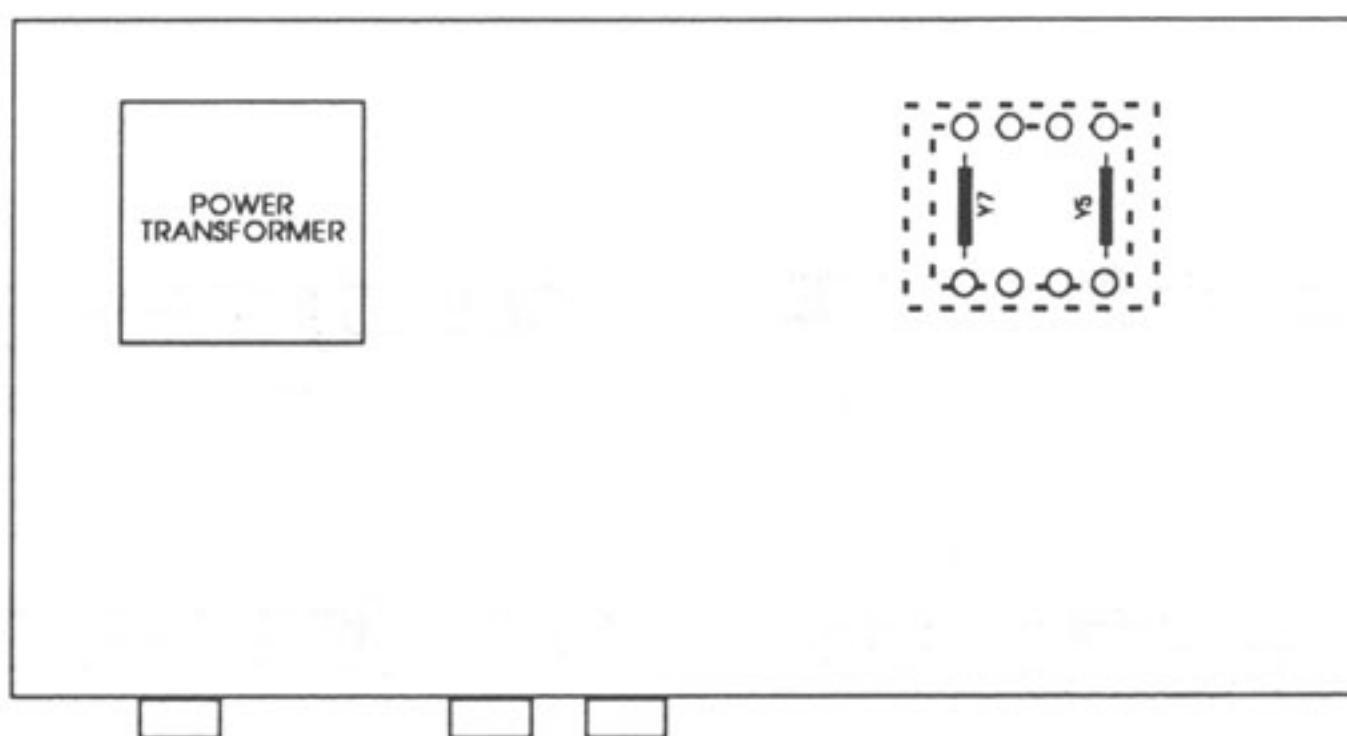

Figure 21: Transformer Mounting Area on 160XT Board
- Referring to Figure 21, note the mounting location of the transformer on the 160XT circuit board. Within the transformer mounting area are two jumpers (Y5 and Y7). Cut or unsolder these jumpers.